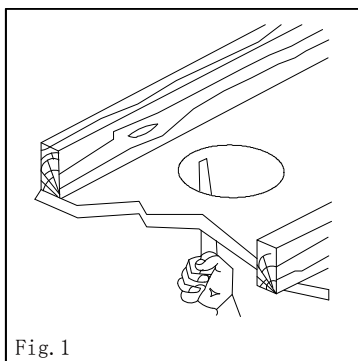

Fig. 1
1. Cut a diameter Ø155~160mm hole in the ceiling. (Fig.1)